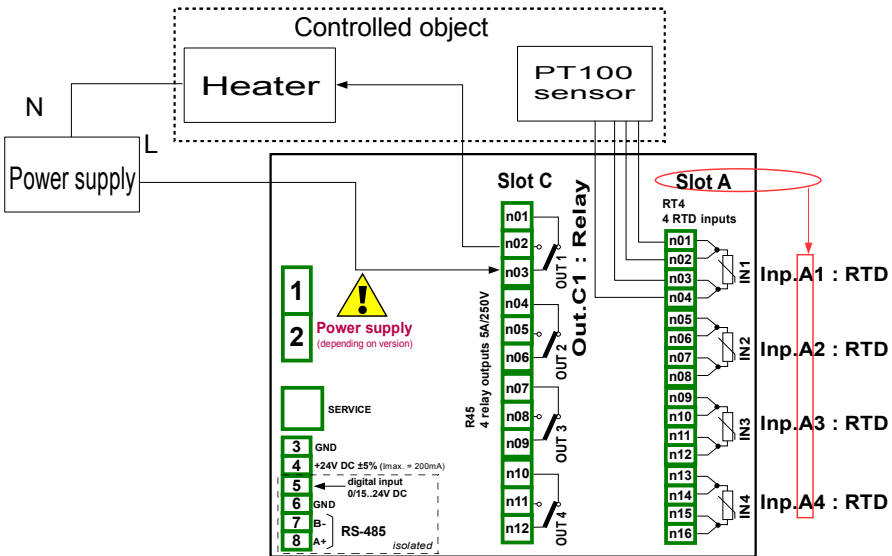

Fig. 7.92. Schematic diagram for the RTD input and Relay output modules
First configure the device as described below, then connect the object and power supply as shown on **Fig. 7.92**.
To control temperature in object shown on **Fig. 7.92**, it is necessary to configure one **Logical channel** and **Relay output**.
- **Source** parameter set as **Inp.A1 : RTD** (see **Fig. 7.92**),
- using the arrows in the top navigation bar, select a relay output which is connected to heater. For this example it is the output named Out.C1 : Relay (see **Fig. 7.92**),